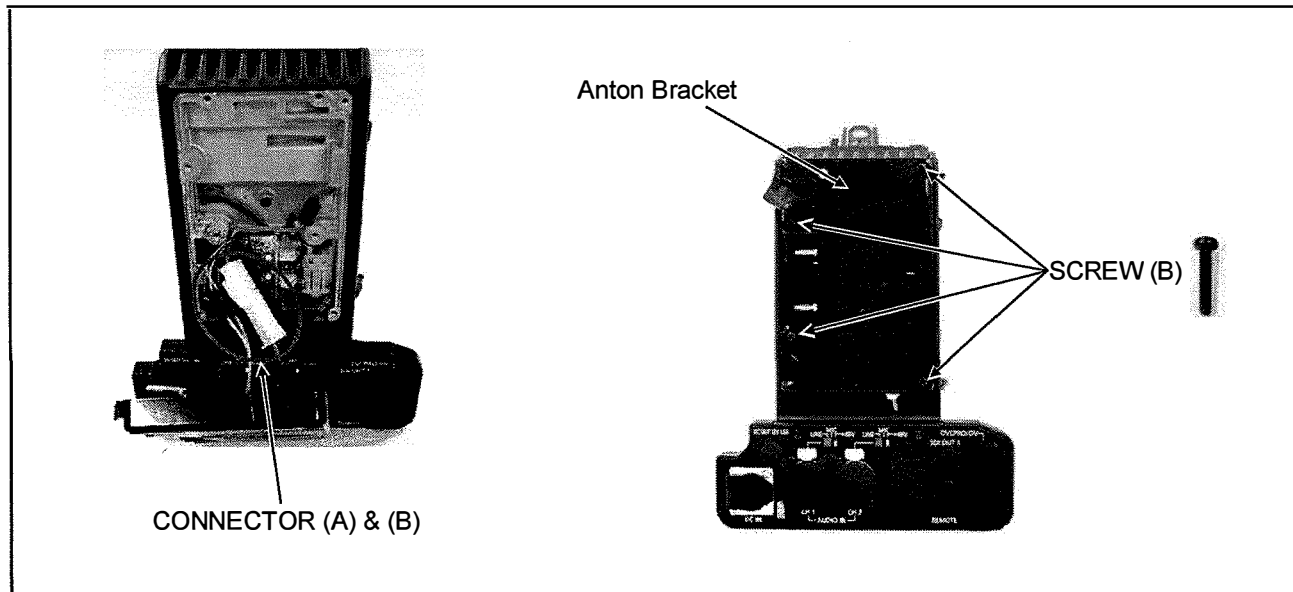

Figure 8-4
1. Connect the connector (A) and (B) as shown in figure 8-4, when you assemble the Anton Bracket to MAIN FRAME.
2. Tighten the screw (B) with $[50 \pm 5\text{cN}\cdot\text{m} (5.1 \pm 0.5\text{kg}\cdot\text{cm})]$ of torque as shown in figure 8-4, when you assemble the Anton Bracket to MAIN FRAME.